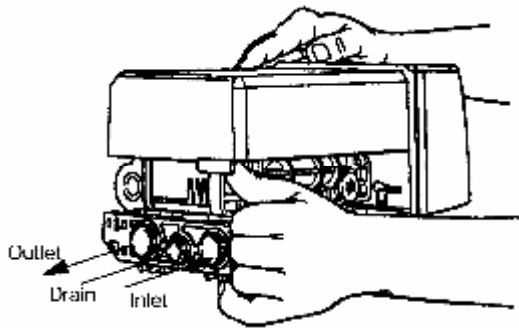

Figure 2
3. Remove the rear cover by pushing back the tab provided on the cover, Next, lift the rear cover off the valve, Figure 2.
2. Remove the rear cover by pulling back on the tab provided on the cover. Next, lift the rear cover off the valve, Figure 2.